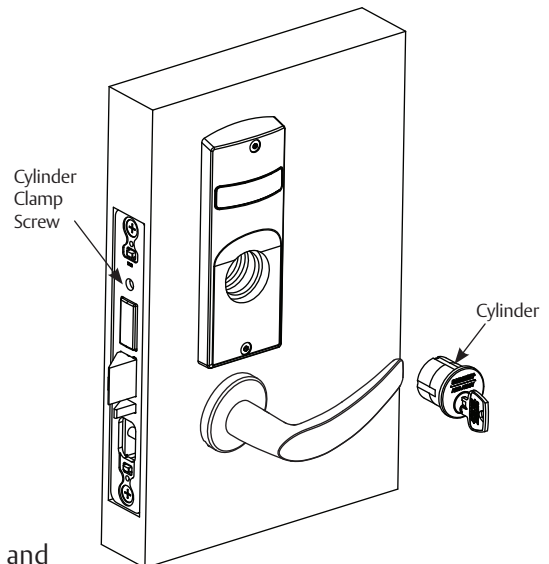

Figure 11
- Thread cylinder into lock until flush with escutcheon surface. (Figure 11)